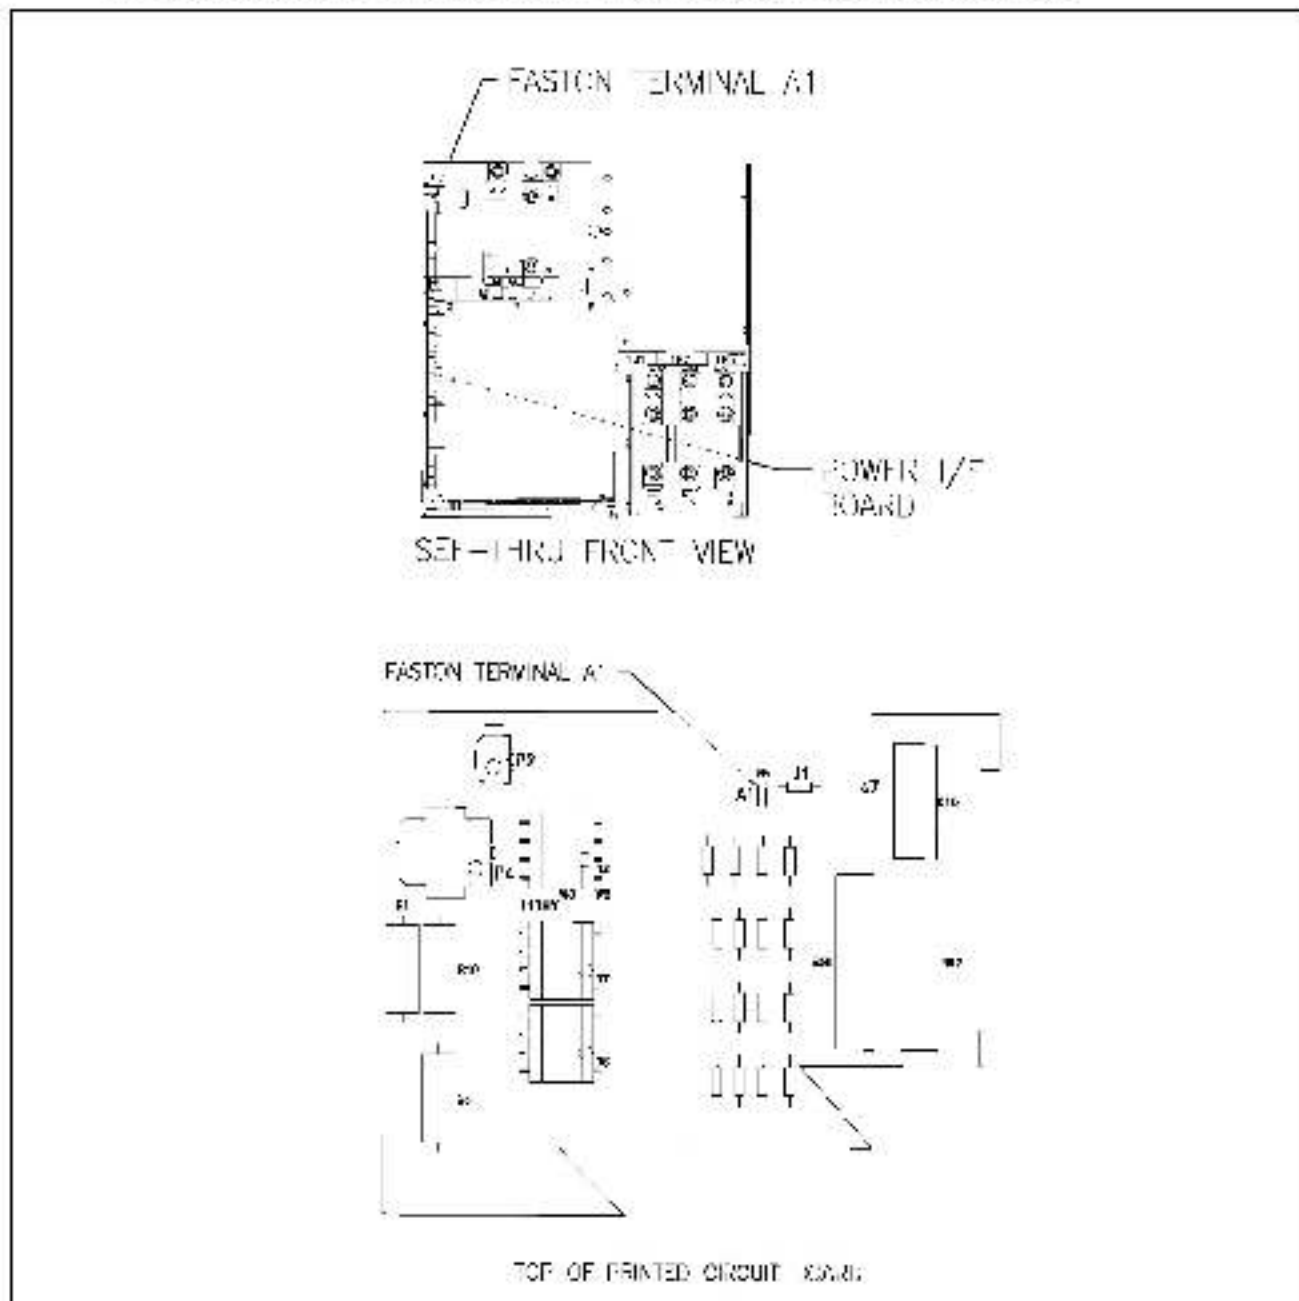

Figure 4 – Power Interface Board and Terminal A1 Locations
- Step 1. Locate and remove the jumper wire connecting drive terminal A1 (see Figure 9) to terminal A1 on the Power Interface board, located at the top left of the drive. (See Figure 4 for the location of the Power Interface board and for the location of terminal A1 on the Power Interface board.)
- Step 3. Connect the spade connector on the wire assembly [Item 8] to the A1 terminal on the Power Interface board. (See Figure 4.) Route this wire to Inverting Fault Circuit Breaker terminal A1. Cut the wire to length as required and terminate the end with the ring lug [Item 9].